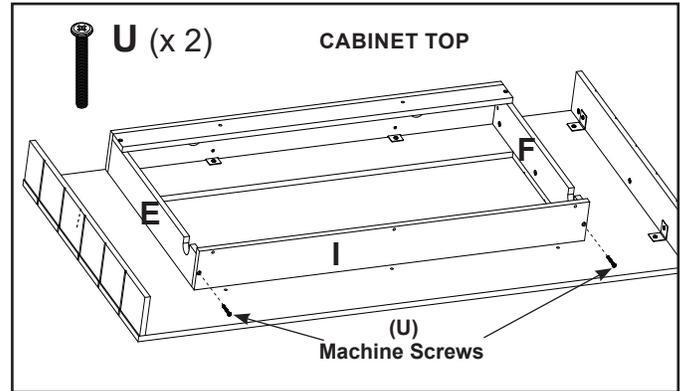

Figure 24
- Secure part "I" to parts "E" and "F" using two (2) M6 x 45 Machine Screws (U). See Figure 24.